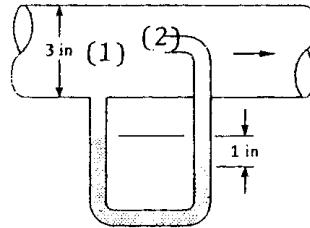

Fig. P3.157
**3.157** The manometer fluid in Fig. P3.157 is mercury. Estimate the volume flow in the tube if the flowing fluid is (a) gasoline and (b) nitrogen, at 20°C and 1 atm.
**Solution:** For gasoline (a) take  $\rho = 1.32 \text{ slug/ft}^3$ . For nitrogen (b),  $R \approx 297 \text{ J/kg}\cdot\text{°C}$  and  $\rho = p/RT = (101350)/[(297)(293)] \approx 1.165 \text{ kg/m}^3 = 0.00226 \text{ slug/ft}^3$ . For mercury, take  $\rho \approx 26.34 \text{ slug/ft}^3$ . The pitot tube (2) reads stagnation pressure, and the wall hole (1) reads static pressure. Thus Bernoulli's relation becomes, with  $\Delta z = 0$ ,